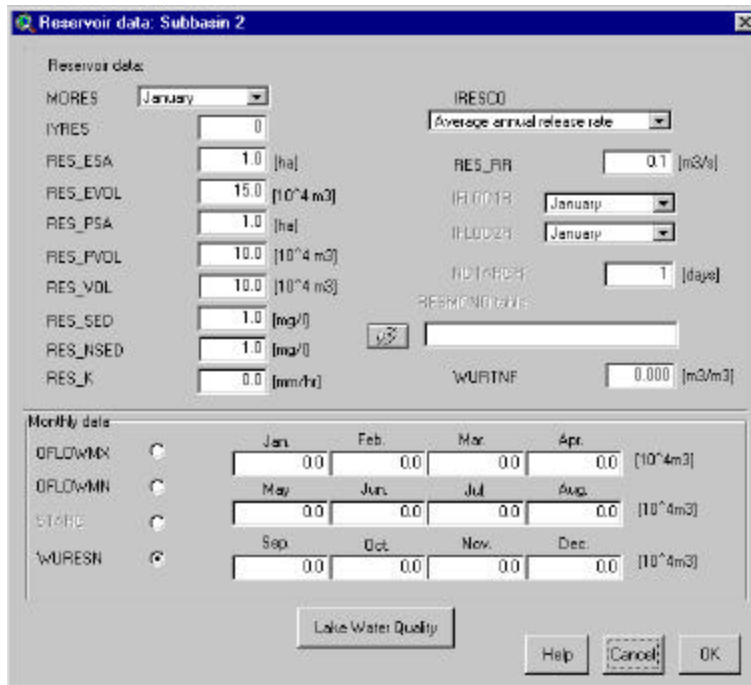

Figure 4.32
- iii. If the mouse cursor was located over a subbasin with a reservoir when right clicked, a dialog box will display the reservoir input data (Figure 4.32).